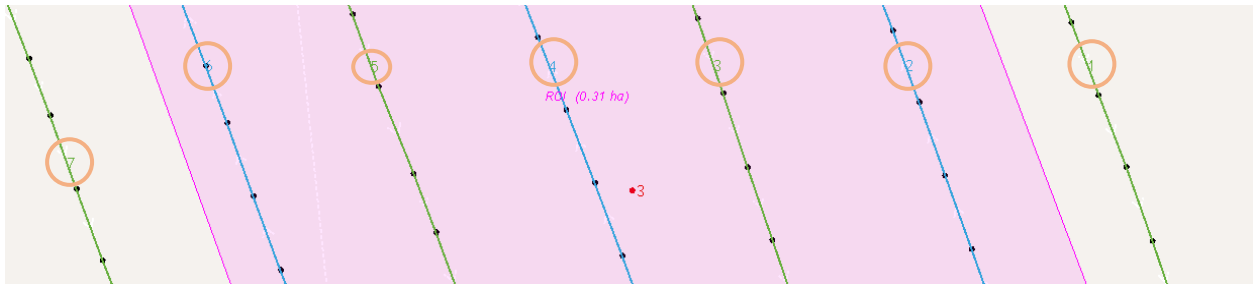

Figure 31: Flight line numbering
- Check whether the flight lines are drawn parallel and whether their numbering is consistent (Figure 31). If they have not been identified properly by the flight line detection algorithm in the software, refer to section 9.4 Changing flight line detection parameters.